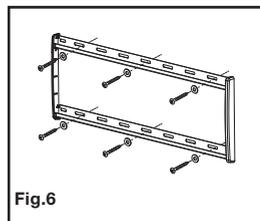

Fig.6
- Place the assembled wall plate against the wall over the inserted anchors and attach it using the M6.3 x 63 screws (A) and washers (B) provided (see Fig. 6). **Do not over-tighten these screws and do not release the mount until all screws are in place.** Ensure that the mount remains level after all screws are secured.